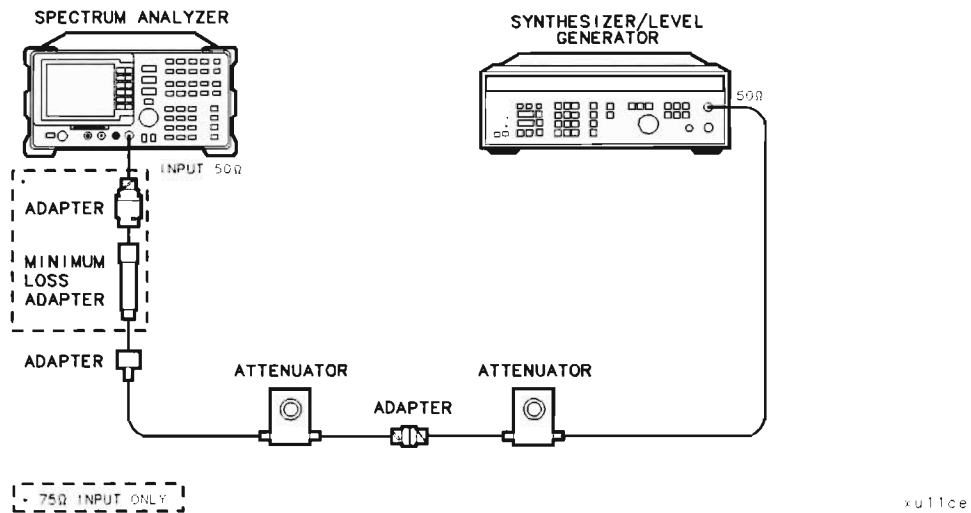

Figure 2-19. Reference Level Accuracy Test Setup
2. Connect the equipment as shown in Figure 2-19. Set the 10 dB step attenuator to 10 dB attenuation and the 1 dB step attenuator to 0 dB attenuation.